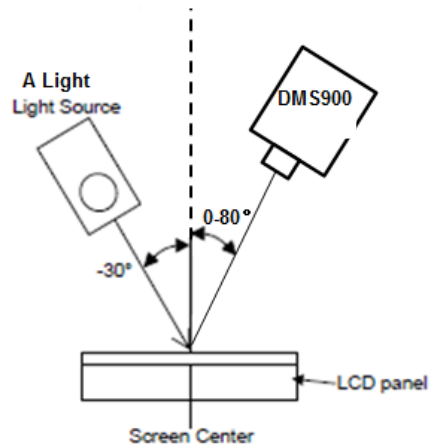

Figure 3
4. Viewing Angle is measured by DMS 900 from Relative direction as shown in figure 3 when light source is input from four direction, respectively.